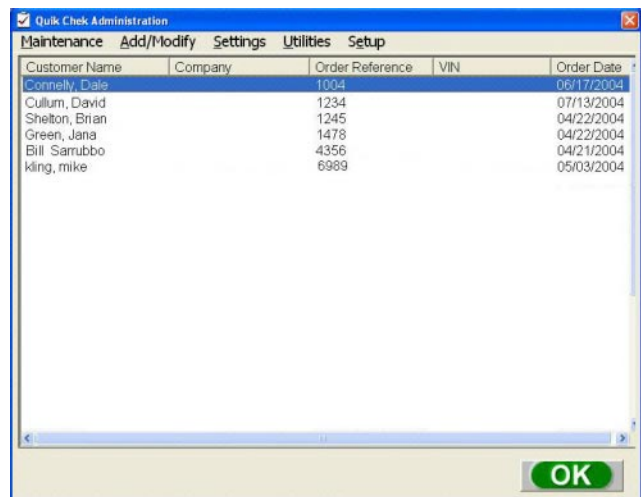

Figure 25
- Customize the Tru-Point™ measuring system for the body shop information, language desired to use, communication port and the user definable tolerance setting. See Figure 25.